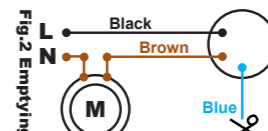

Fig.2 Emptying
- Emptying: (Fig.2) when black and brown wires are used, the circuit opens when float is down and closes when the float is up. Note: the blue wire must be insulated.